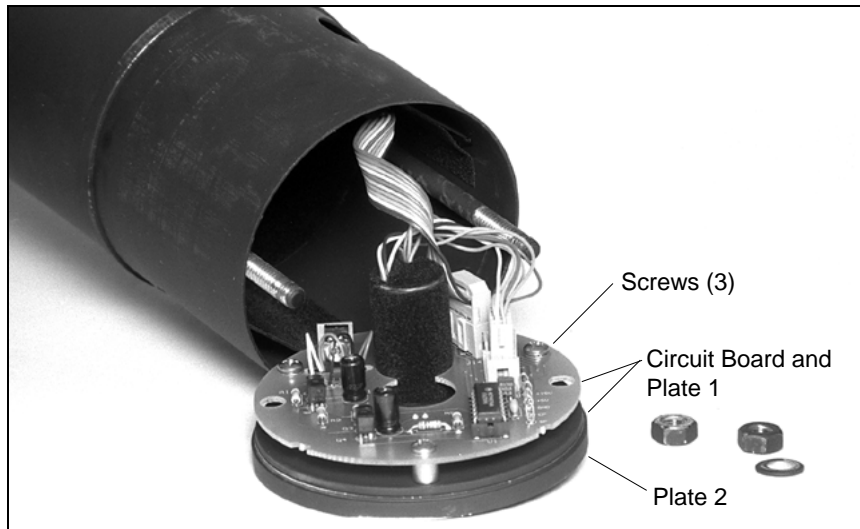

Figure 8-20
- a.** Set the plate assembly, circuit board side up, on a flat surface (Figure 8-20).
- b.** Remove the three screws and washers attaching the circuit board and plate 1 to plate 2 (Figure 8-20).